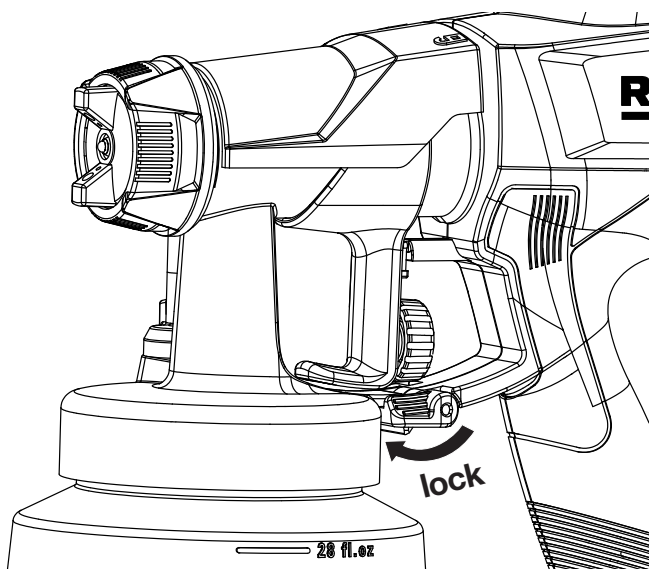

Fig. 2
- 1b) Turn the quick release lock to lock (P16) the spray gun assembly securely. **See Fig. 2**